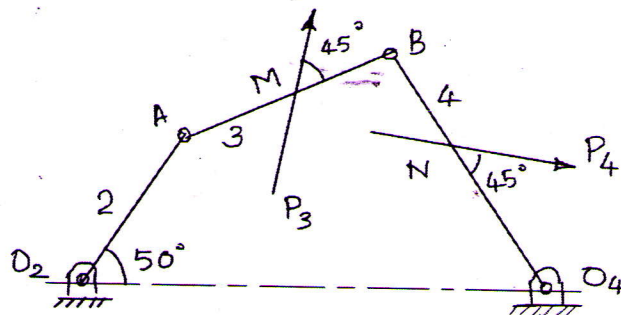

Figure 2
- 2 a) Explain the virtual work method of static force analysis. (3)
- b) Find the torque to be applied on link 2 for the static equilibrium of the four-bar mechanism shown in Fig. 2. The link dimensions are:  $O_2A = 10$  cm,  $AB = 15$  cm,  $O_4B = 15$  cm,  $AM = 7$  cm,  $O_4N = 8$  cm,  $O_2O_4 = 25$  cm. The loads on links 3 and 4 are  $P_3 = P_4 = 1000$  N. (7)